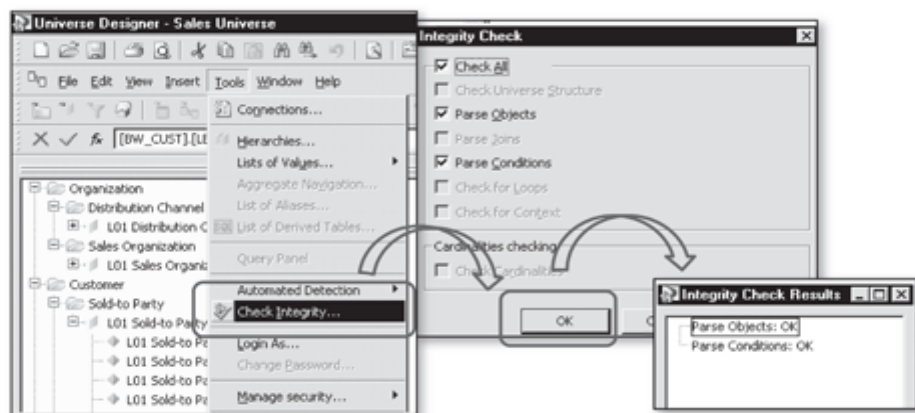

Figure 13.14 Check Integrity of the Universe
3. **Check the integrity:** After all of the changes to the universe are made, you can check the consistency of the universe by checking its integrity. Go to Tools, and select Check Integrity (Figure 13.14). Check all of the options in the following screen, and click OK. The integrity check results are displayed in the following screen.